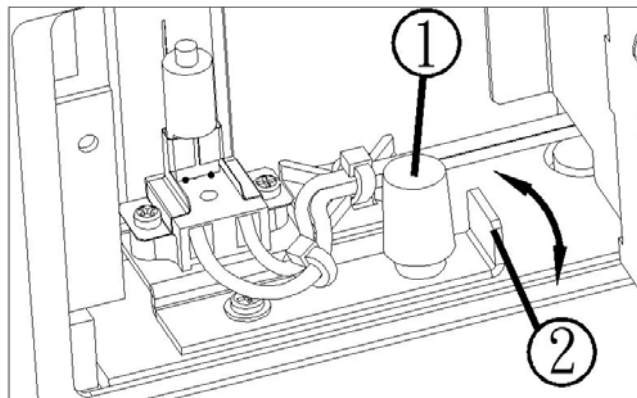

Figure 5b: Lamp tuning
11. In the lamp house (figure 5b), loosen the white thumbscrew (#1) and adjust the